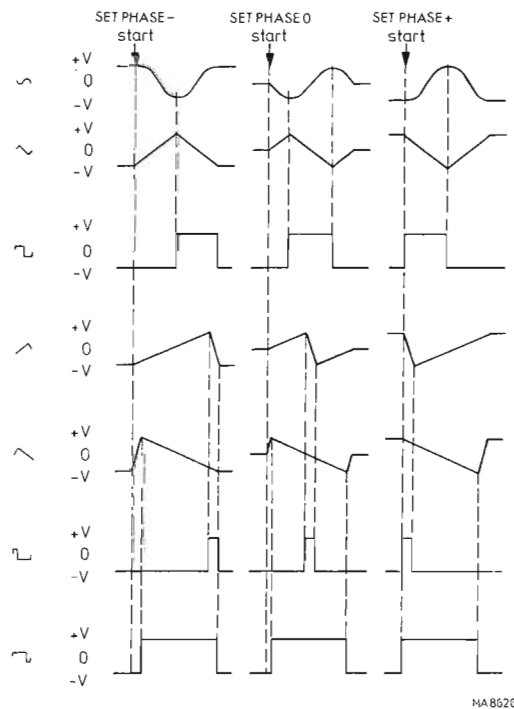

Fig. 5. Starting points for the various signals in the "SINGLE SHOT" mode
The generator is provided with a control device which can produce single periods of a signal with set frequency and signal form. The single shot capability is operative for all signal forms and in the frequency ranges 1 m ...1k. The starting point can be set continuously between the peak values of the signal (in accordance with Fig. 5) by means of potentiometer SET PHASE.
- Set potentiometer SET PHASE in accordance with Fig. 5. to the required starting point